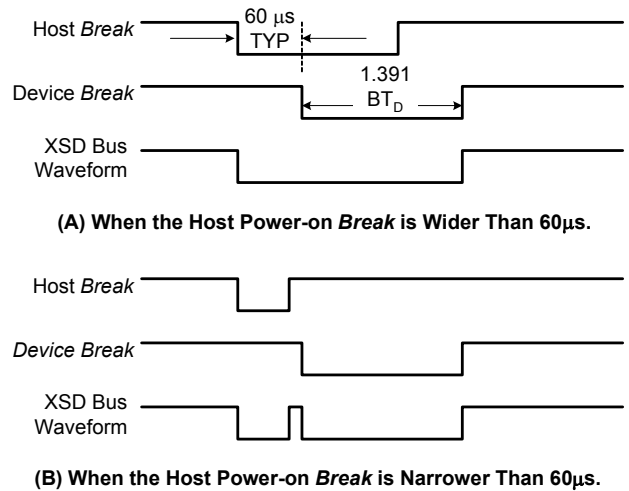

FIGURE 4. POWER-ON BREAK SIGNAL TO WAKE-UP THE ISL9206 FROM SLEEP MODE
Note that the ISL9206 will initiate the power-on sequence without waiting for the power-on 'break' signal to return to the high state. If the host sends an initial 'break' pulse wider than 60µs, the device-ready 'break' returned by the ISL9206 will likely be merged with the pulse sent by the host and, therefore, may not be detectable. Figure 4 illustrates the waveforms during the Power-on Reset. Figure 4 (A) is for the case that the power-on 'break' rising edge occurs after the device starts to sending the 'break'. Figure 4 (B) shows the case that the power-on 'break' finishes before the device sending its 'break'. The device break signal is always 1.391 times of the device bit-time (BT, see XSD Bus Interface section for more details). Either case in Figure 4 will wake up the device successfully if the device is in the sleep mode.